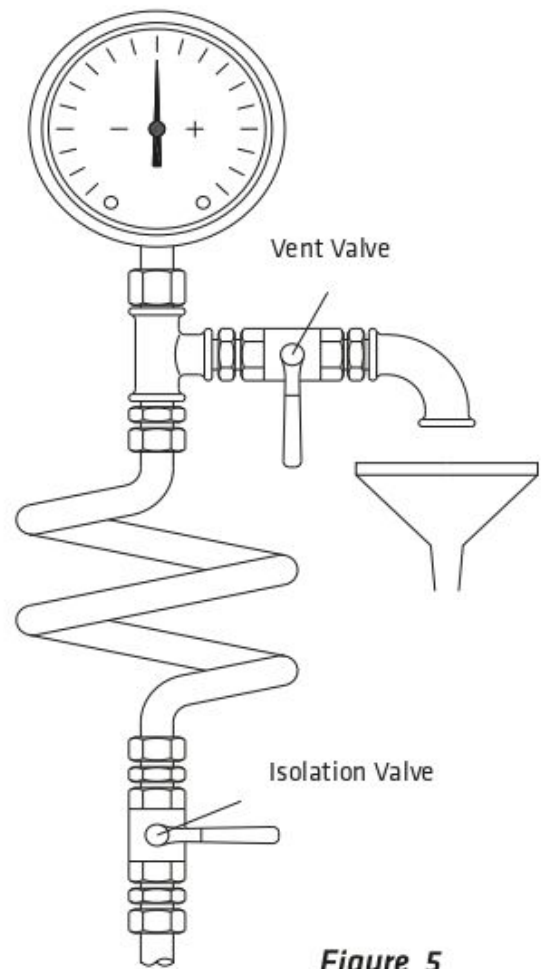

Figure 5
- Pressure and vacuum gauges must be properly anchored and connected at the measuring points located on the pump flanges by means of or on the pipes close to the flanges approximately 8 mm diameter tubing with pig tail configuration to lessen pressure fluctuation. For safety purposes isolating and vent valves should be fitted before the gauges (**Figure 5**).